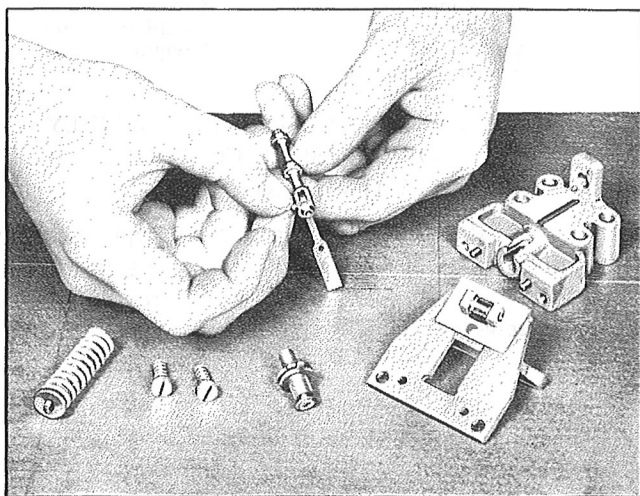

Figure 198—Removal of the Governor Piston Pin
*Step 4.*—Remove the piston pin from the governor piston, using fingers only, as shown in Figure 198. Withdraw the lever.